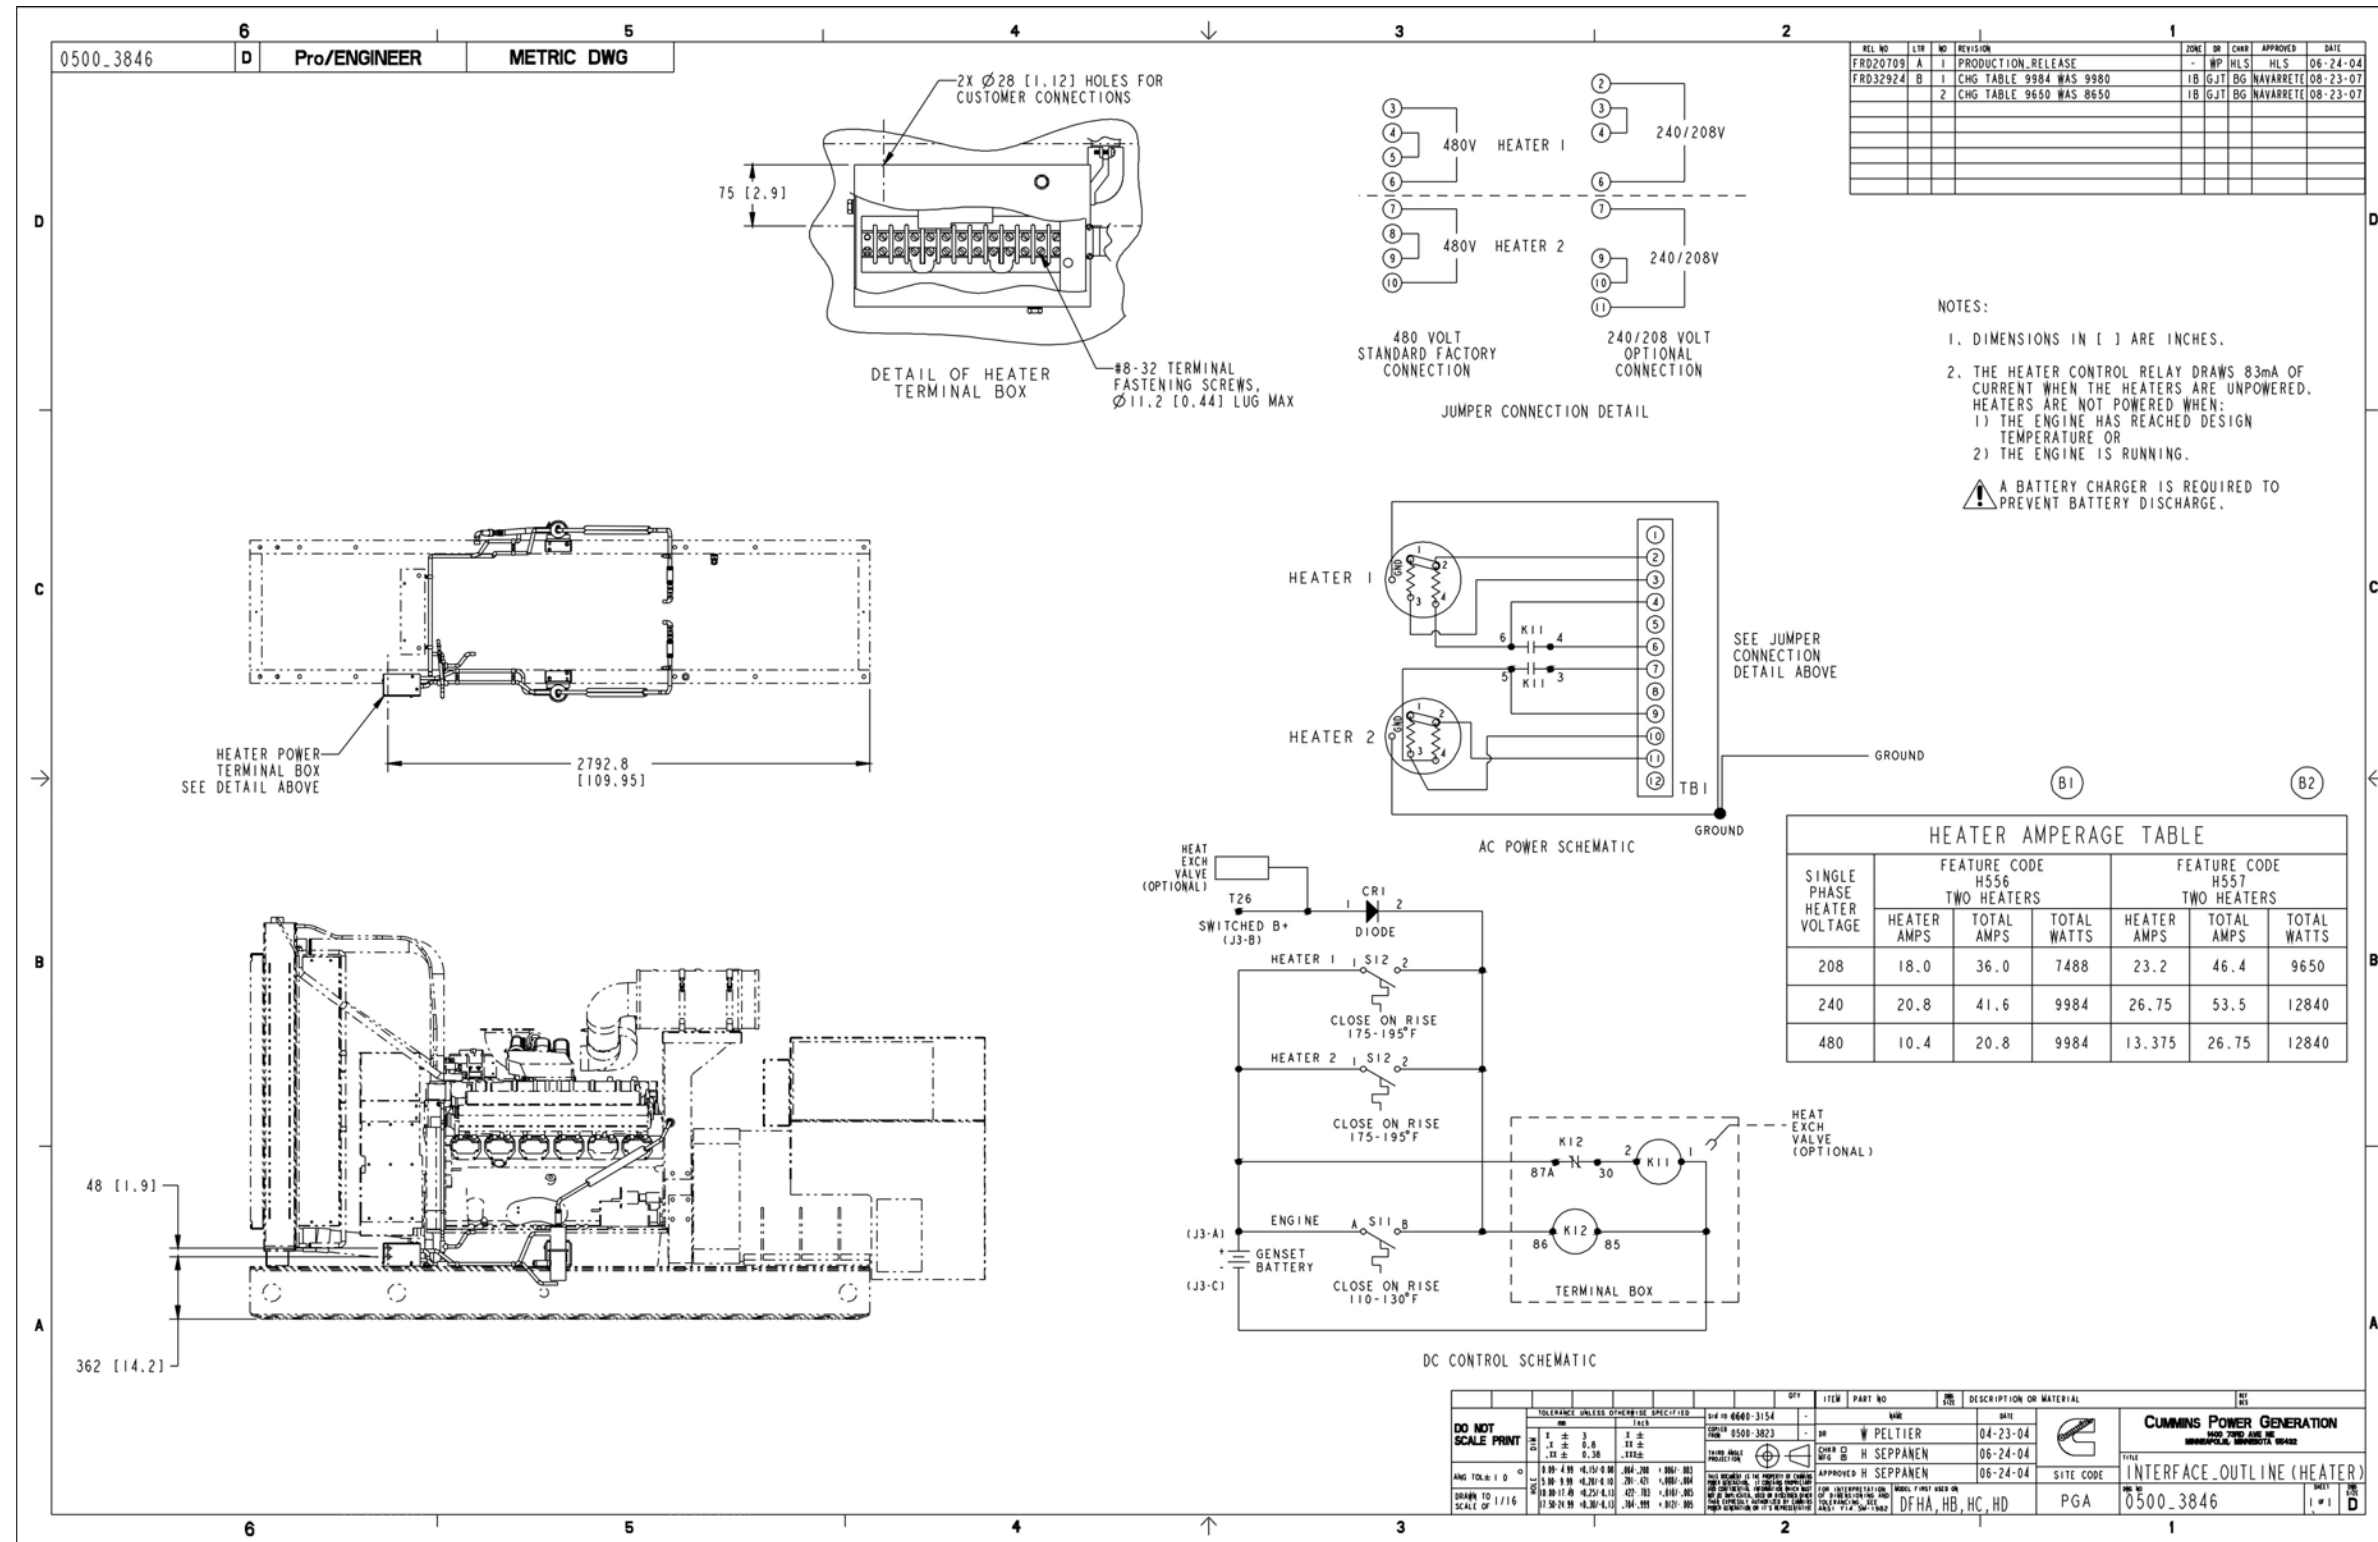

FIGURE 93. HEATER OUTLINE DRAWING AND SCHEMATIC
- Figure 93. Heater Outline Drawing and Schematic 165